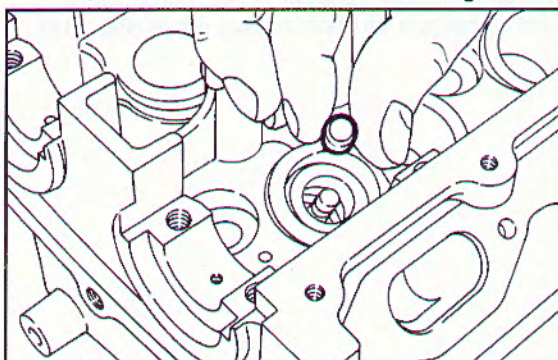

Fig. 216 ▼
- fit the valve clearance pads and tappets, respecting the disassembly sequence for both (Figs. 216 and 217);